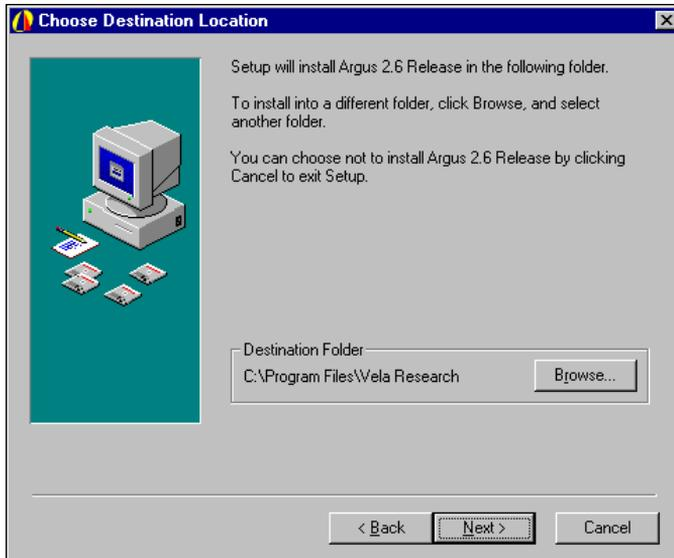

Figure 1-4. Destination Location Screen
2. On the "Choose Destination Location" screen (Figure 1-4), accept the C:\Program Files\Vela Research destination, as listed, by clicking Next. **Do not change the destination, as it is important for proper system operation.**